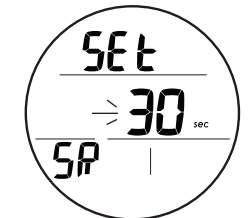

Fig. 66 - SET SR
**Set SR (Sampling Rate)**, information includes (Fig. 66):